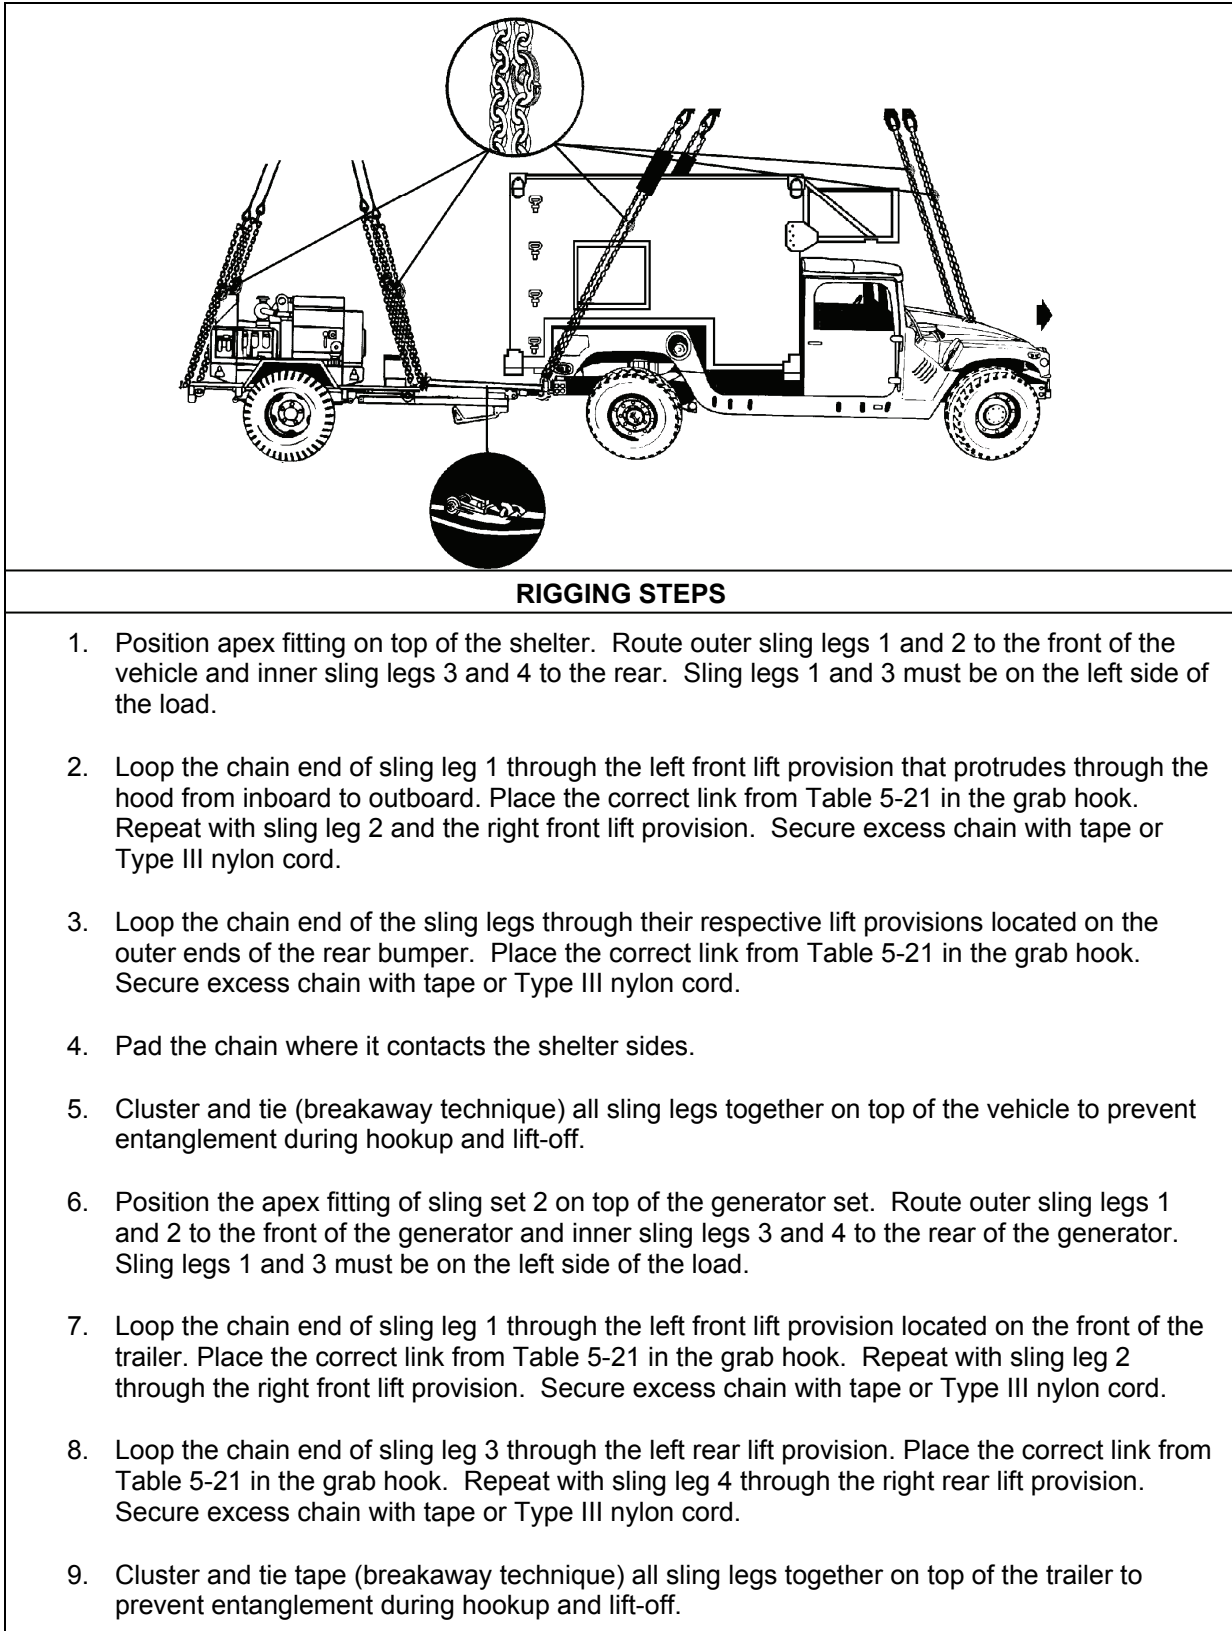

Figure 5-21. M1113 Shelter Carrier (HMMWV) with LMS Shelter and PU-798 Generator on M116A3 Trailer
- **Rigging.** Rig the load according to the steps in Figure 5-21.